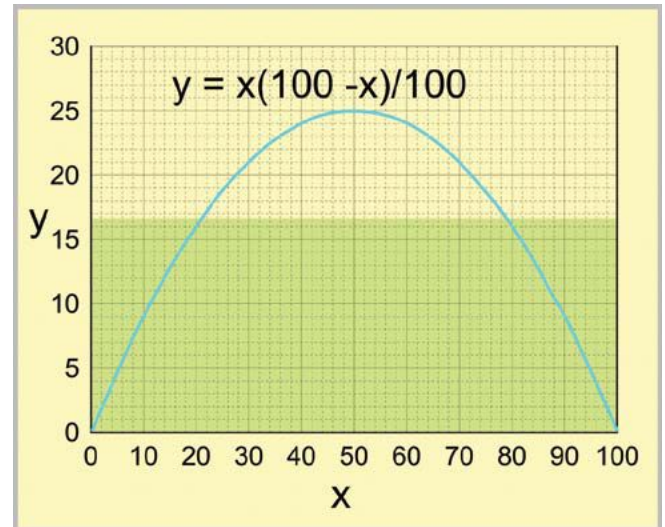

Fig.6. Variation of Maximum Bending Moment for a single applied force.
Use ‘Easyplot’ (supplied to everyone by University), to graph equation (3). Set the x-axis to go from 0 to 100 and the y-axis to go from 0 to 30 - we already know that the maximum value for *M* will be 25. You should then all get the same graph (fig.6):
The total of the bending moments being suffered by the strip is the same as that of the green rectangle included in fig.6.